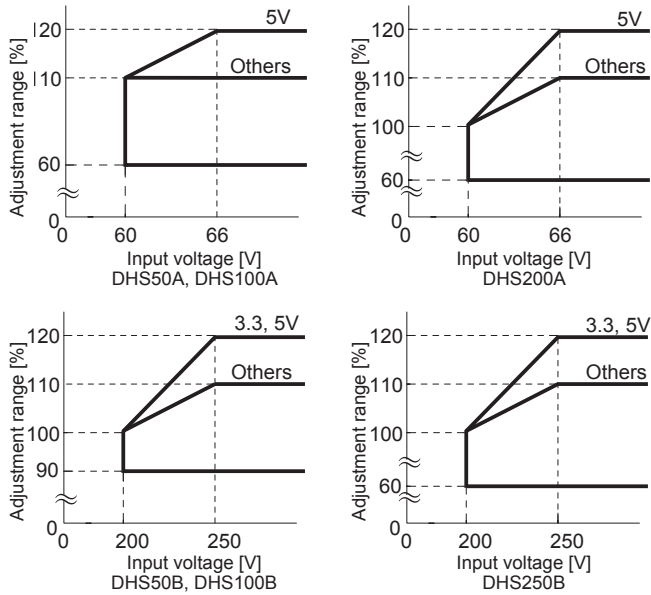

Fig. 4.4 Output Voltage Adjustment Range
- When the input voltage is 60 - 66VDC or 200 - 250VDC, the output voltage adjustment range becomes as shown in fig . 4.4.